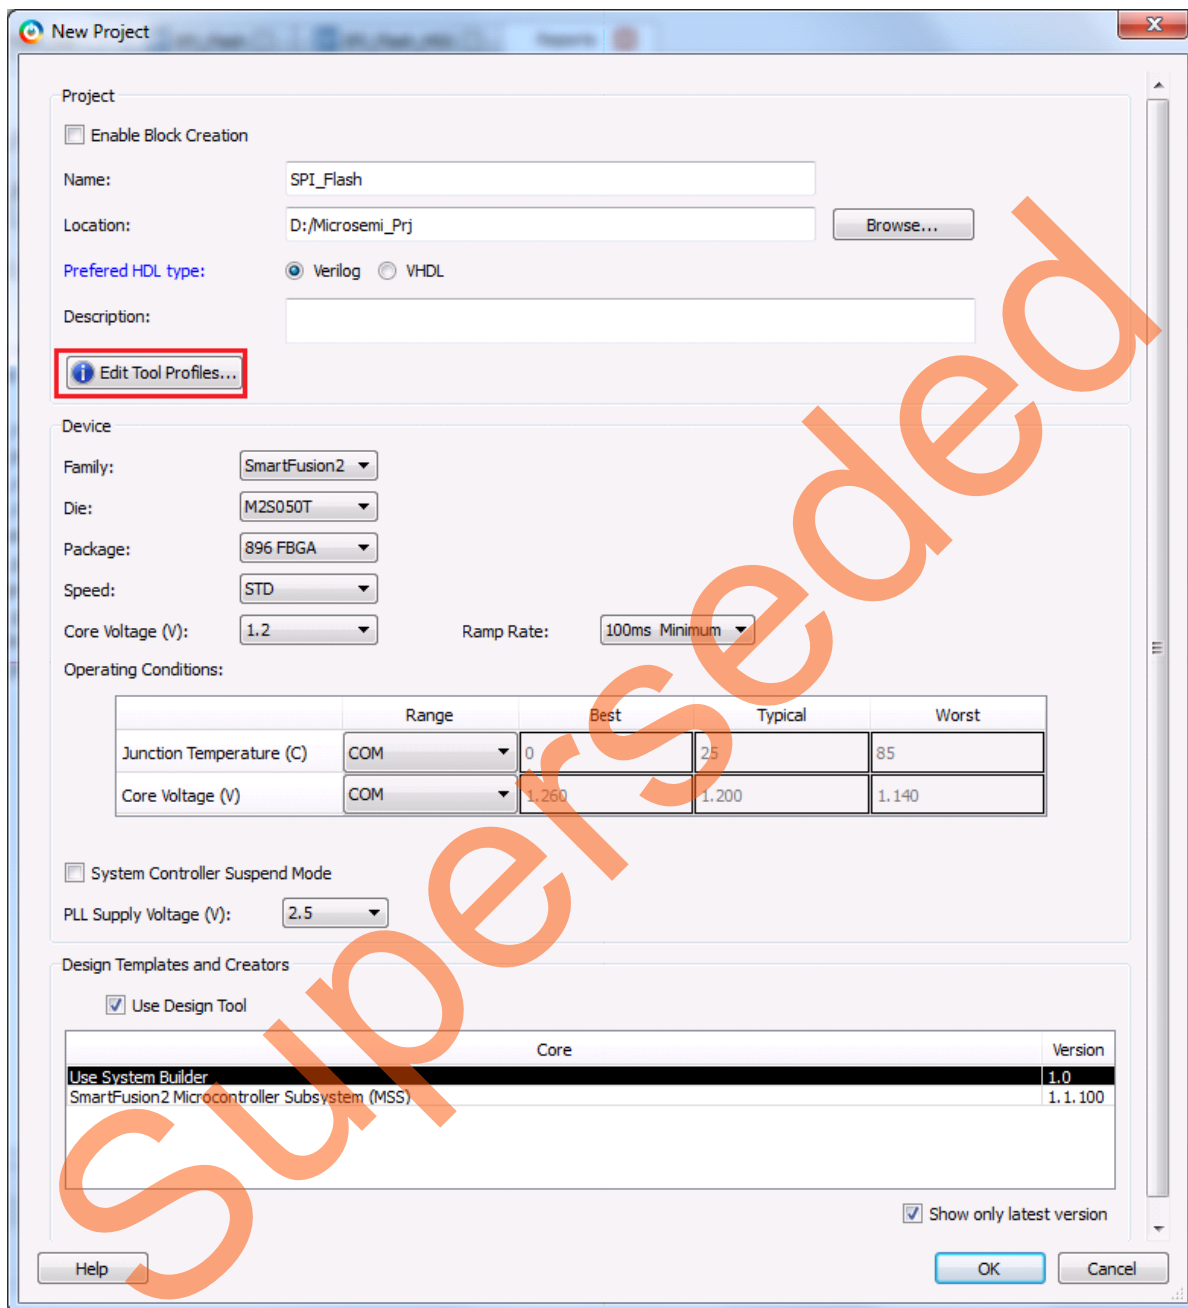
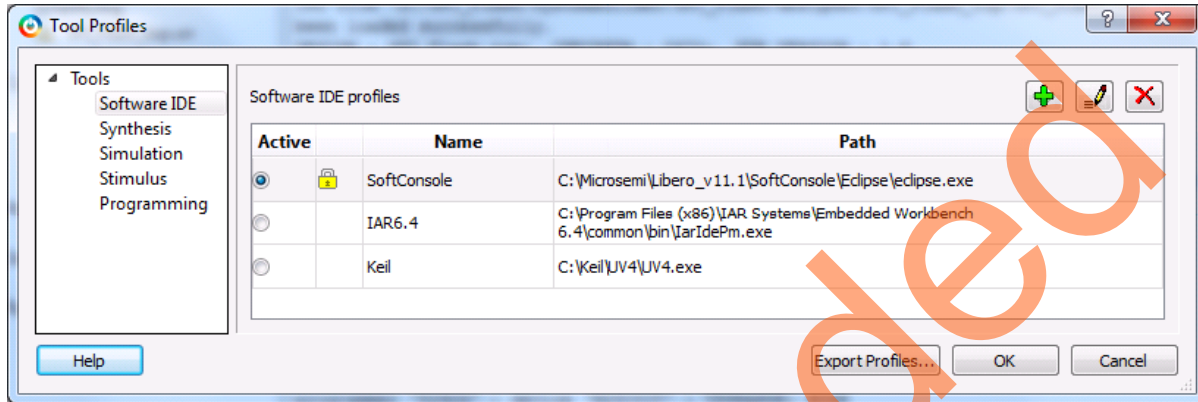

Figure 3 • New Project Dialog Box
Figure 4 • Tool Profiles
3. Enter the information as required for the new project and the device in the **New Project** dialog box as shown in Figure 3.
4. Check the **Use Design Tool** check box and select **Use System Builder** in the **Design Templates and Creators** section of the **New Project** window as shown in Figure 3.
5. Clicking **Edit Tool Profiles** (highlighted in Figure 3 on page 6) displays the **Tool Profiles** window as shown in Figure 4. Check the following tool settings: